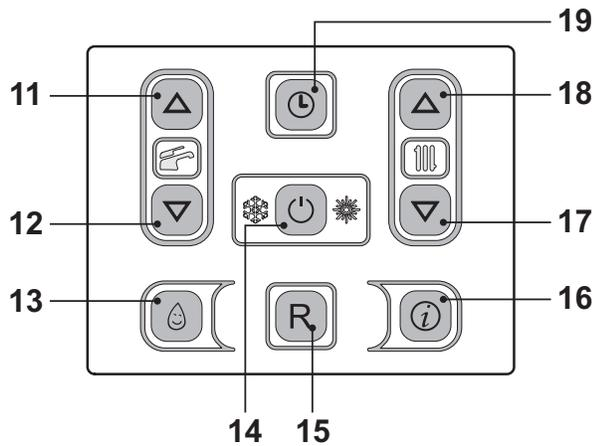
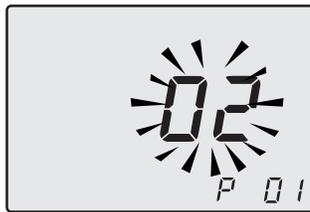

Fig. 9.20
Fig. 9.21
- Enter in "programming mode" by pressing keys 14 - 17 - 18 (Fig. 9.20) for 10 seconds at the same time until the letters **P01** are displayed on the LCD display, indicating that "parameter 01" (Fig. 9.21) has been activated.
- Press keys 17 and 18 (Fig. 9.20) at the same time until the LCD display displays the letters **LP** that alternate with the heating water temperature value (e.g. **45**), indicating the activation of the "chimney sweep function" at minimum output (Fig. 9.22).
- By pressing 18 (Fig. 9.20) it is possible to change power in chimney sweep mode: with the letters **hP** on the LCD display which alternate between the heated water temperature (i.e. **32**), we are in the "chimney sweep function" at the minimum power during heating (Fig. 9.23).
- Press keys 14 - 17 - 18 (Fig. 9.20) at the same time again to exit the "chimney sweep mode" and return to the previously set boiler status (Fig. 9.26).